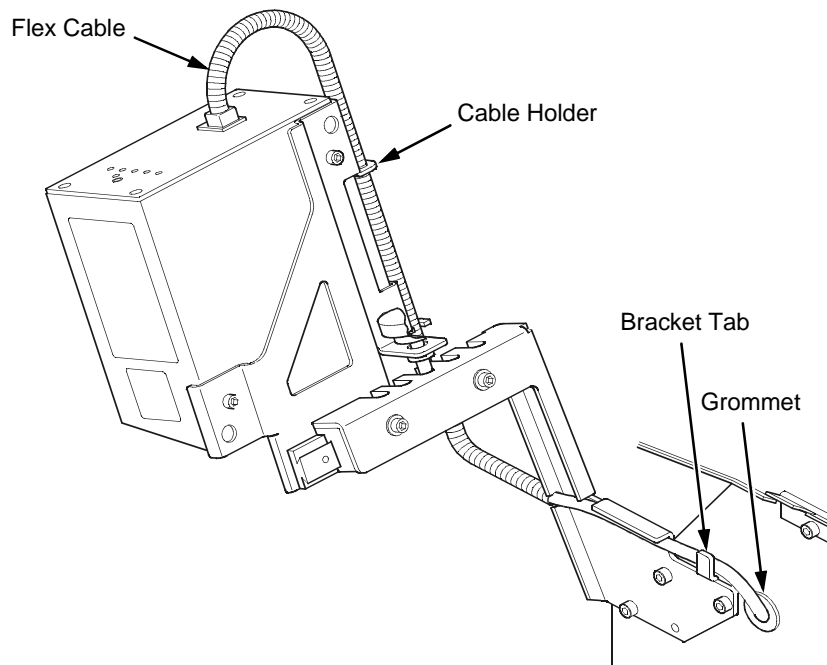

Figure 4. Attaching the Power/Data Cable
11. Route the flex cable through the appropriate cutouts and feed it through the grommet, as shown in Figure 4. When the printer is ordered from the factory with the validator option, the cable is already installed and this step can be skipped.